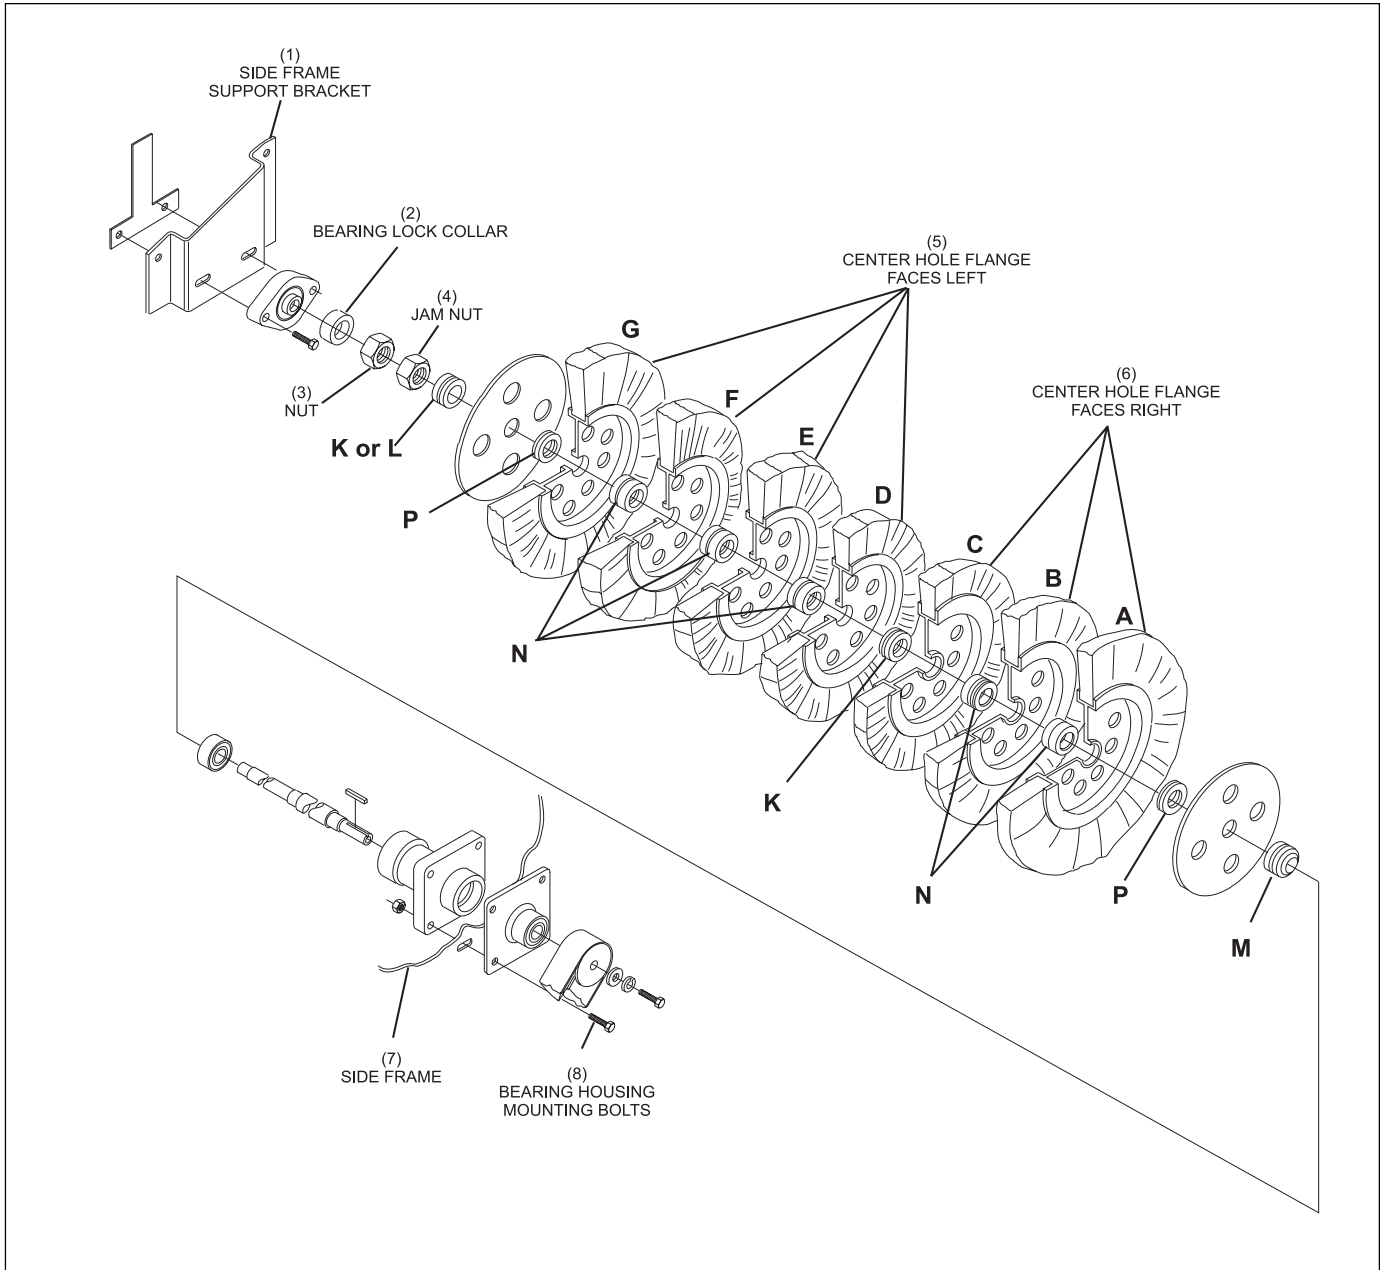

Figure 21. Replace Buffing Wheel
8. Loosen the two (2) jam nuts that secure the buffing wheel sections together. The buffing wheel drive pulley has been slotted to accept a 1 1/8" wrench, to give a positive lock on the buffing wheel shaft. Refer to *Figure 21*.
- (3) NUT
- (6) CENTER FLANGE FACES RIGHT
9. Using a ½ inch wrench, loosen and remove the two (2) bolts and T-bracket that secure the pillow block bearing to the pillow block bracket mounted on the left-hand side frame. Slide the pillow block bearing towards the buffing wheel.
10. Using a ½ inch wrench, loosen and remove the two (2) bolts that attach the pillow block bracket to the left-hand side frame. These two (2) bolts are on the lower outside of the triangle plates of the compound advance mechanism. Remove the pillow block bracket.
13. Each of the seven sections of the new buffing wheel assembly is stamped with a letter “A” through “G”. Lay them on a flat surface in alphabetical order. Refer to *Figure 21*.
14. The spacers are not stamped with a letter. They can, however, be identified using the chart below. Arrange spacers and plates in proper sequence with buffing wheel sections. Refer to *Figure 21*.